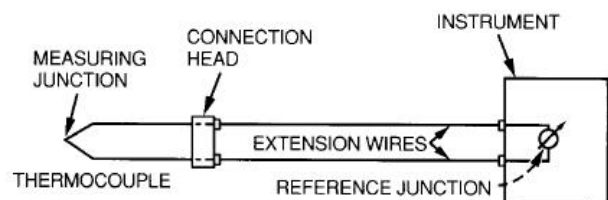

Fig 2 – Schematic Diagram of a Thermoelectric System.
Thermocouples are incorporated into instrumentation and systems as shown in Fig 2. The usual basic system consists of: (1) the thermocouple attached to (2) a connection head which is located near the point of the measurement and is in turn connected by (3) extension wire to (4) an instrument which incorporates internal extension wire and the thermocouple reference junction.